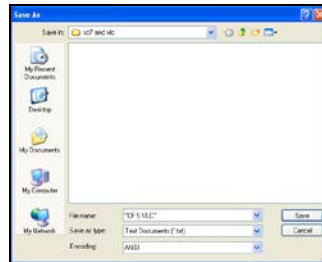

Figure 39: Saving as .VLC
14. In Notepad, click **File>Save As** and enter the name "CF S.VLC" into the *File name*. Be sure to include the quotations, as this ensures that the file saves as a .VLC. Refer to **Figure 39**.